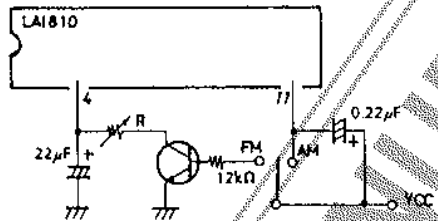

Fig.1 Method to Change the LED ON Sensitivity at the the FM Mode
The external resistor connected to pin 12 can be used to vary the muting level (Fig.1). The abnormal sound at the time of side peak reception at the FM mode can be reduced by weak signal muting.
7. The following method can be used to change the LED ON sensitivity at the FM mode (Fig.1). The data on the LED ON sensitivity setting resistance and LED ON sensitivity is shown in Fig.2.